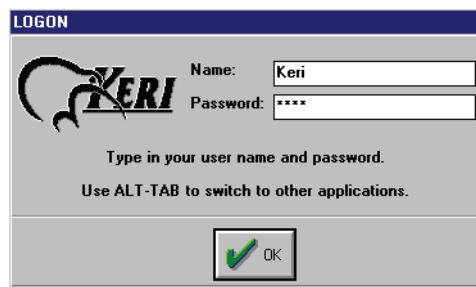

Figure 1-11: Logon Window
Once the program begins, it will prompt for an operator logon (see Figure 1-11). This is an identifying name and password for the operator entering the program. The first time the program is entered, the default logon information must be used. Until changed, the default password provides access to everything in the *Doors* program. Later in the *Doors* configuration process, each authorized operator is assigned identifying names and passwords (see “Setup Operators” on page 45 in section 2).
1. Click on the File ⇒ Log Off pull-down menu option. The original operator is logged off the system and the Logon window appears (see Figure 1-11).